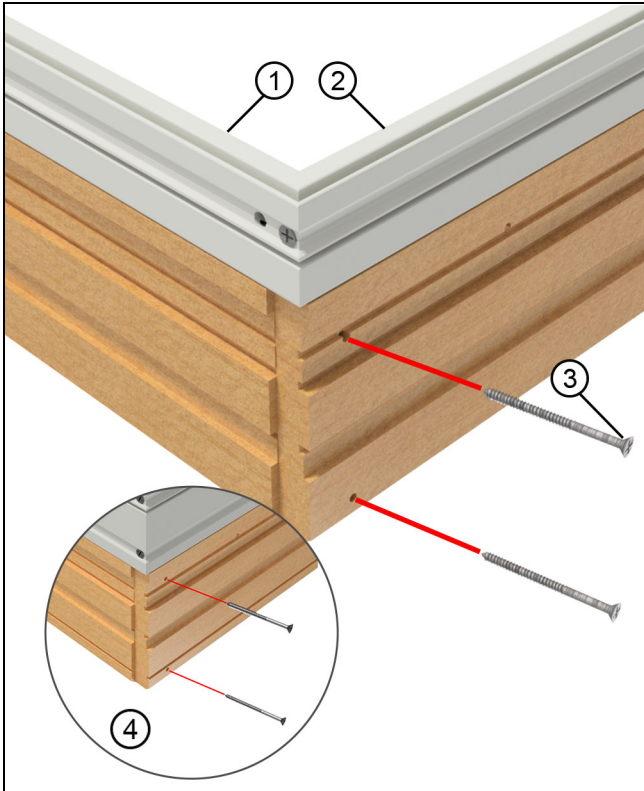

Figure 5 Pre-drilled screw holes are angled
4. Use two #7 x 2" flat head screws to screw through the pre-drilled holes located on the side of the side jamb wood into the head jamb wood. Push the head jamb down towards the jamb to fully seat it prior to screwing. See Figure 5.